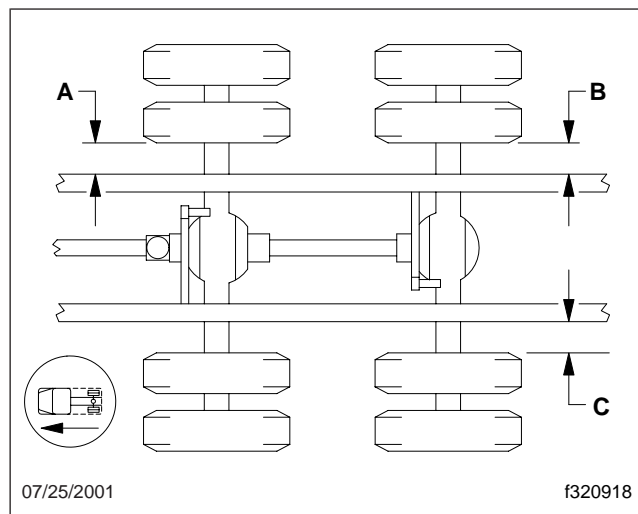

Fig. 5, Axle Tracking Measurements
6. Check the rear axle(s) tracking. See Fig. 5.